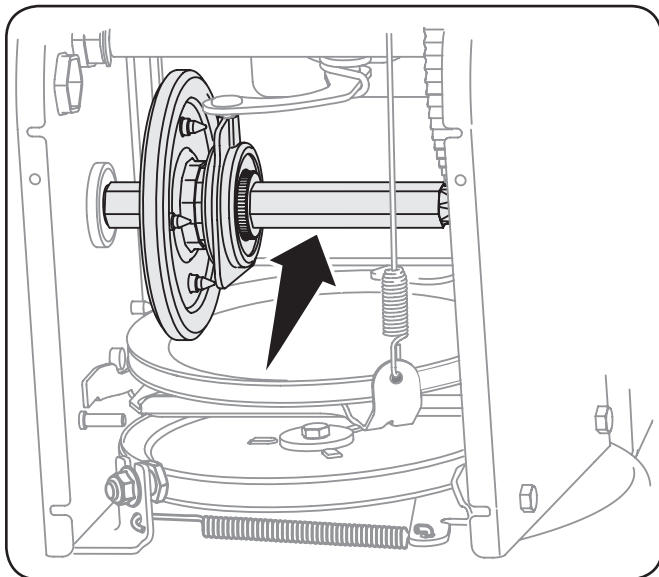

Figure 6-4
4. Apply a very light coating of engine oil (or 3-in-1 oil) to the hex shaft. See Figure 6-4.